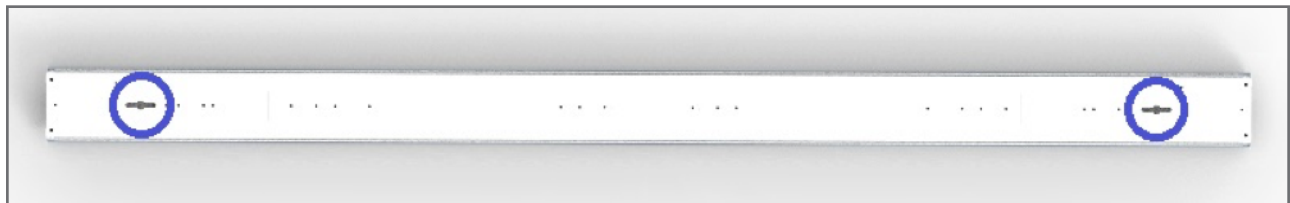

FIGURE 4
3. Position the housing to the desired mounting location on the wall or ceiling. At the designated mounting points (circled in blue in Figure 4), use appropriate fasteners (by others) to secure the housing to wall or ceiling.